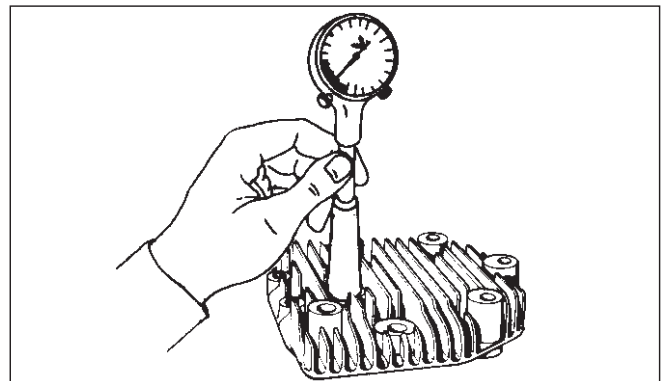
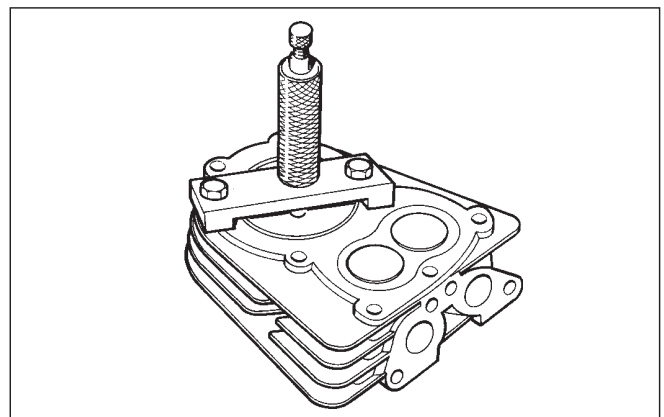

Fig. 21
Fig. 22
- Accurate timing is best achieved by removing the cylinder head and gasket, turn engine to top dead centre and using gauge (Fig 22) set timing following the procedure for two stroke engines; special tools are available for this operation (Figs 21 and 22).
- Dial gauge timing tool - part no. 670241 (Fig 21) may be used without removal of the cylinder head.